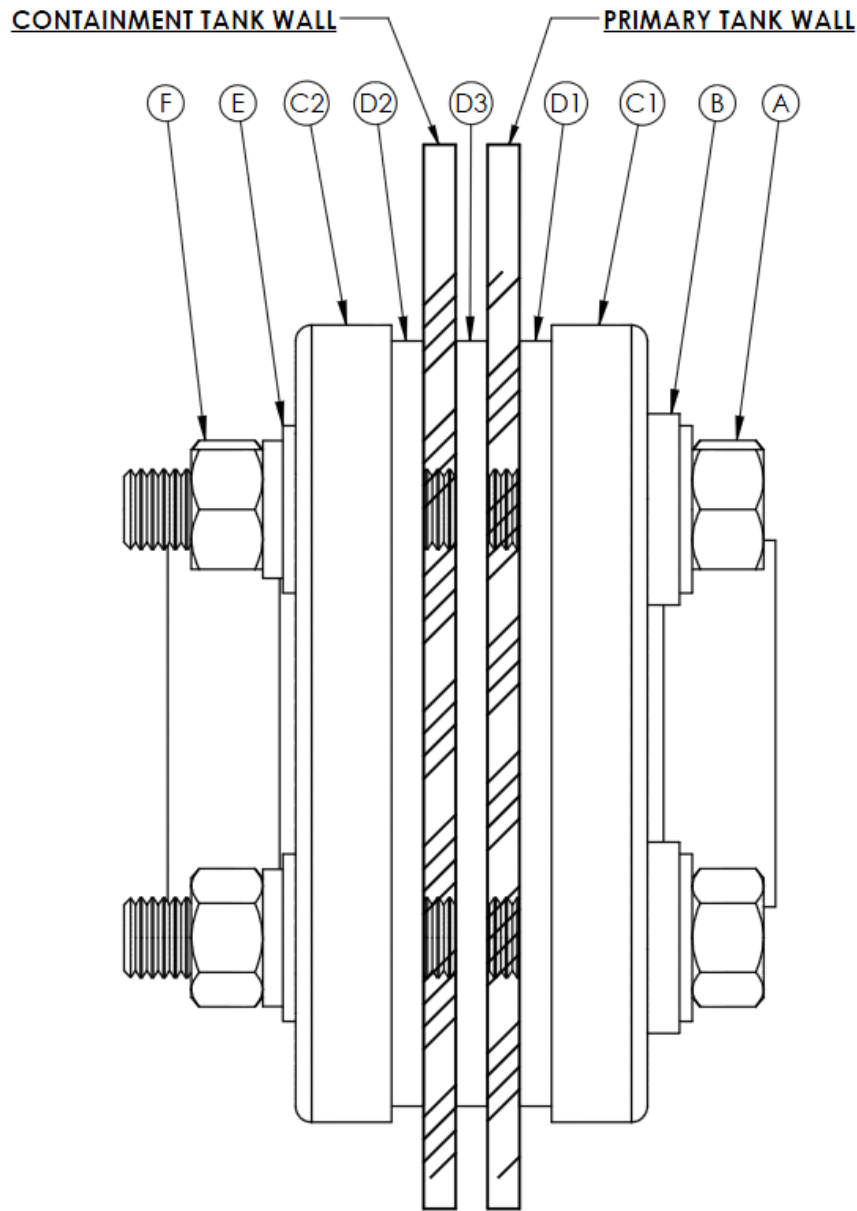

Figure 6.8
6.8.1 Dual containment tanks can have a sidewall fitting located at the 0°, 90°, 180° or 270° locations with a gasket installed in the interstitial space between the primary and containment tank. This option is normally factory installed for use with DCT tank assemblies. This option can be field installed. Consult factory for more details. The bolted fittings used with this option follow the same sealing/tightening criteria as detailed in sections 6.3 and 6.4. An example of this option is shown in Figure 6.8.
6.8.2 The bolted flange fitting shall be constructed with 2 ea. 150 lb. flanges (C1 and C2), 3 ea. 150 lb. flange gaskets (D1, D2, and D3), the correct number of full threaded bolts (A), bolt gaskets (B), flat washers (E), and hex nuts (F) for the flange specified. NOTE: If the sum of the containment and primary tank wall thicknesses and the interstitial gasket (D3) thickness is greater than or equal to 0.75", fittings with stainless steel bolts will require longer bolts for installation. Consult with the factory for the correct part number when ordering long-bolted flange fittings. Refer to Figure 6.8 for part identification.